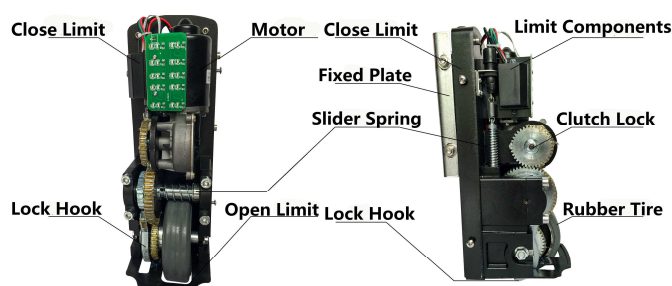

Fig.1
1. Opener structure: as Fig. 1